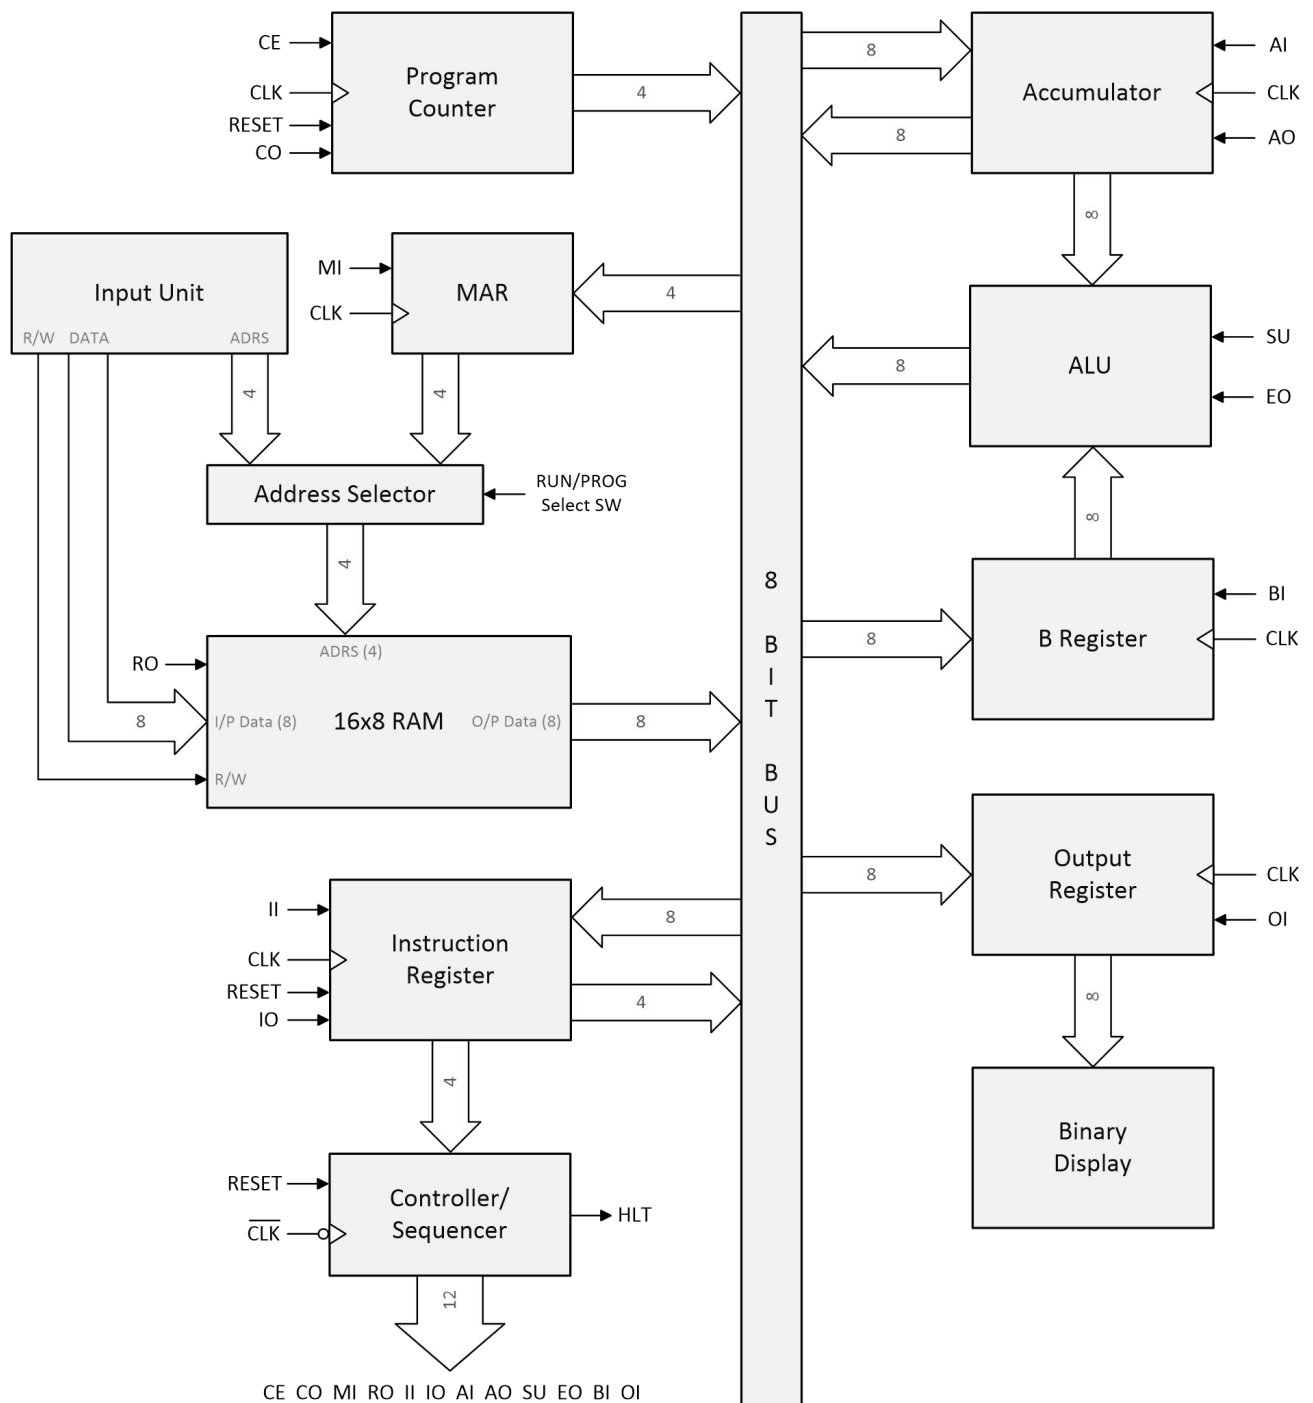

Fig. 1: Block diagram of the project.
11. The computer must have all the blocks shown in project diagram (Fig. 1). Specifications of each block are described later.
This section discusses the specifications/requirements for each block/submodule shown in the project diagram (Fig. 1) -